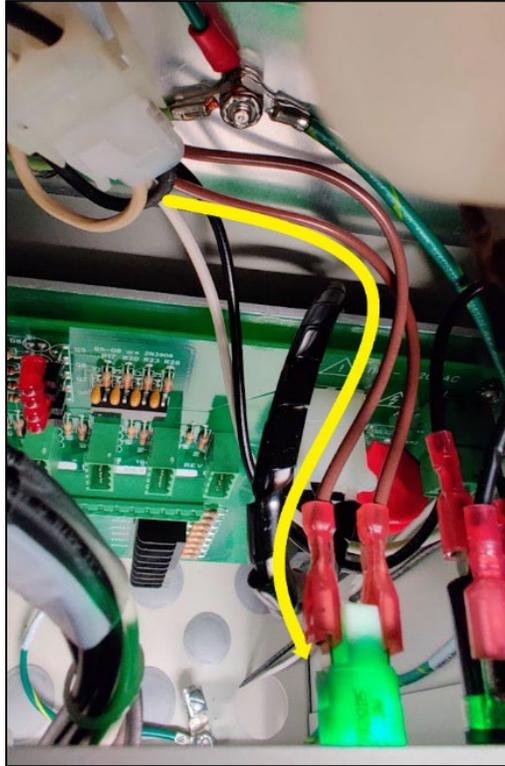

Figure 16 Connecting the Brown Wires, Above View
4. Plug the Power Conditioner's black quick-connect into the back of the fuse (Figure 16).